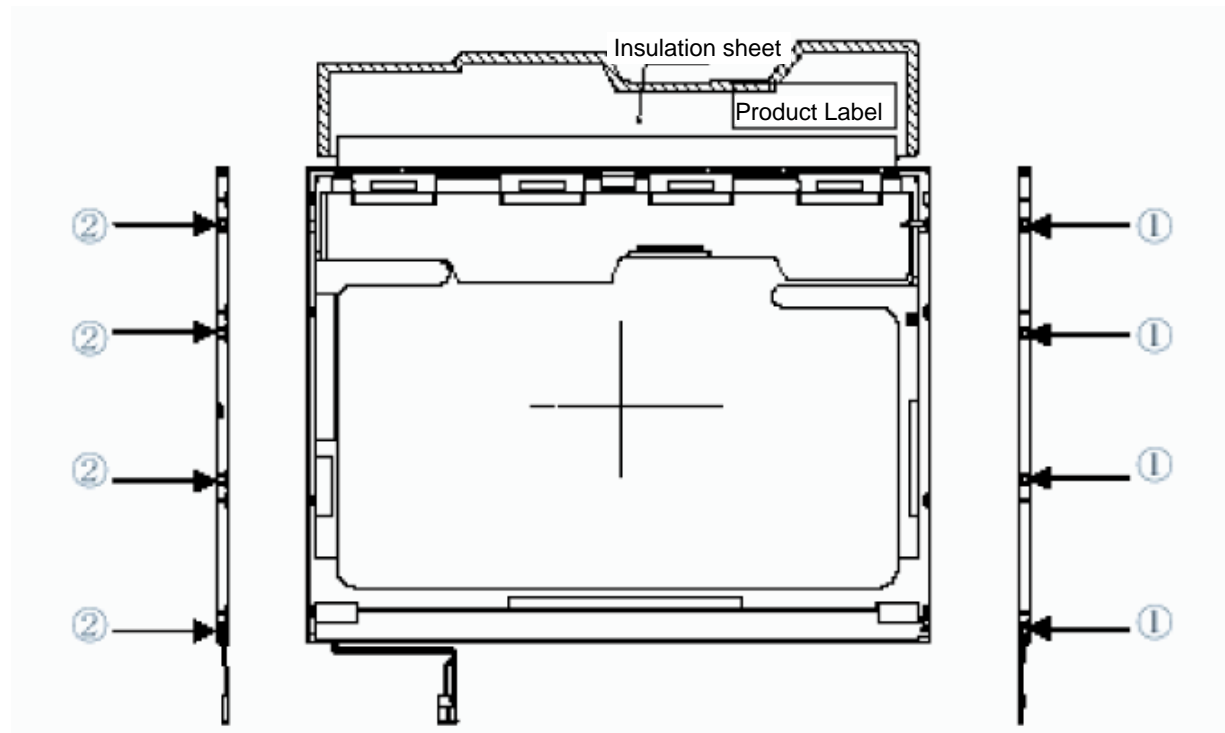

Figure 4-78 Replacing TMD fluorescent lamp (XGA) (10)
CAUTION: (1) Fasten the screws in the orders shown in Figure 4-78. No loose fastening is allowed.
(2) The tightening torque must not exceed $0.147 \text{ N} \cdot \text{m}$ ($1.5 \text{ kgf} \cdot \text{cm}$) for all the eight screws.
(3) For the Philips screwdrivers, use an insert bit of point size 0.